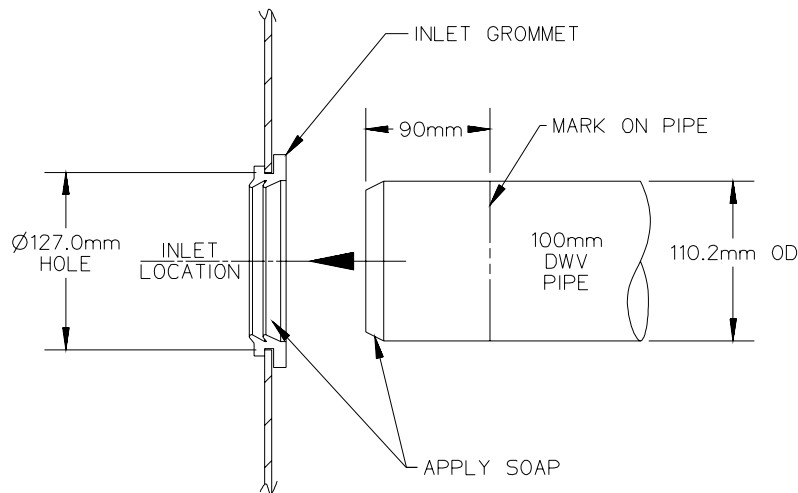

Fig. 5 - Inlet Installation
7. Inlet Installation (Figure 5)
Install the supplied inlet grommet in the drilled hole. Place a mark on the inlet pipe about 90 mm from the end that will enter the tank. A bevel should be ground or filed on the pipe end to aid in installation through the grommet (Figure 5). Clean the grommet and pipe surfaces to remove any debris. Apply a film of pipe soap or dish soap to the outside surface of the inlet pipe end and the inside of the grommet. Insert the beveled pipe